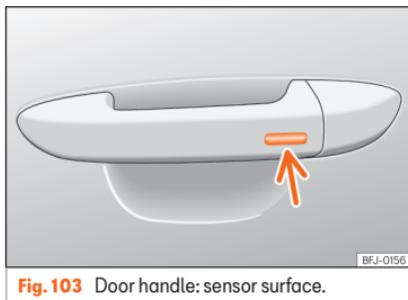

Fig. 103 Door handle: sensor surface.
- Press and hold the locking sensor surface **» Fig. 103** (arrow) on the door handle to close the sunroof. If you release the sensor surface, the closing movement stops.